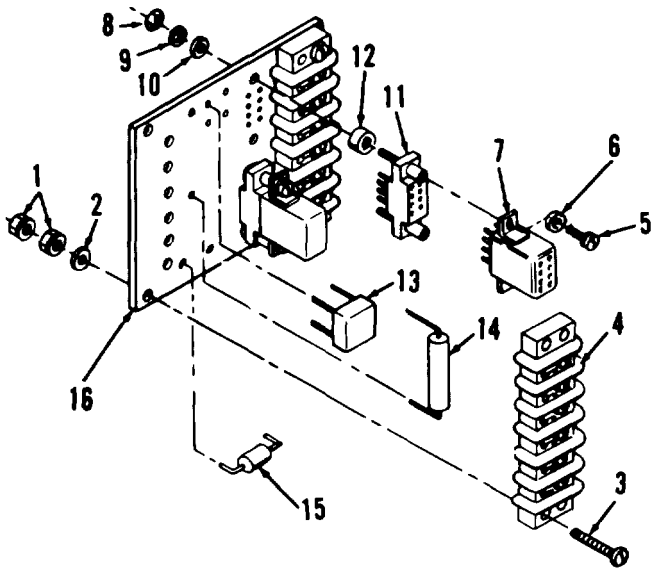

Figure 6-4. Control box relay assembly, exploded view
- a. Refer to figure 6-4 and disassemble the control box relay assembly in the order of index numbers assigned.
Legend to figure 6-4:
Refer to figure 6-4 and reassemble control box relay assembly in reverse order of index numbers assigned. Pay particular attention to the following.